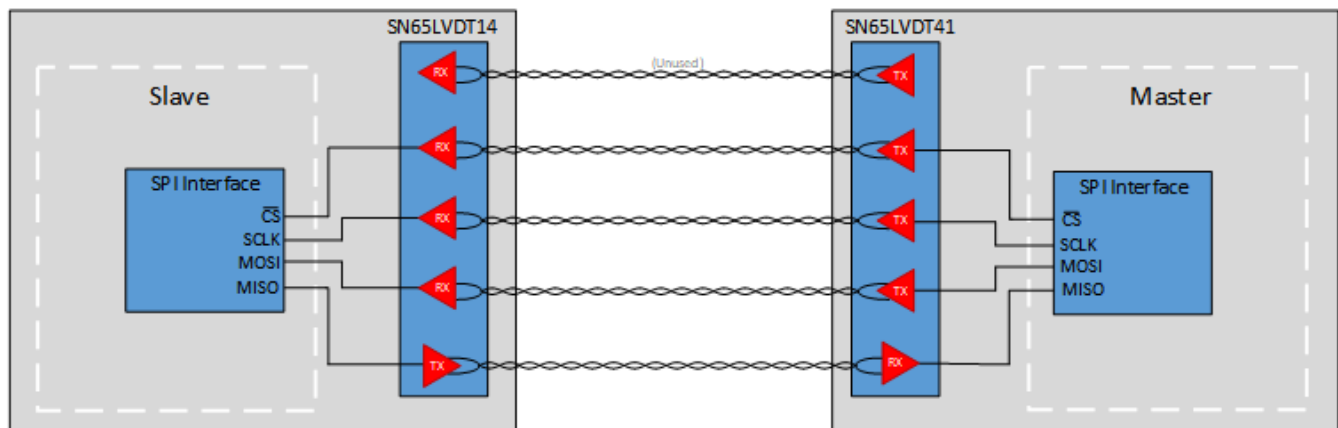

Figure 18. Typical SPI Application With LVDS
SPI operates in a master-slave architecture, with four unidirectional signal lines. The master supplies data named Master-Out-Slave-In (MOSI), a clock (SCLK), and a optional Chip Select (CS) signal to control the operation of the system with multiple slave devices. The MOSI, SCLK, and $\overline{CS}$ signals are unidirectional from the master device to slave devices. The serial data from slave to master device is a unidirectional signal named Master-In-Slave-Out (MISO). The flow of data can be seen in Figure 18.